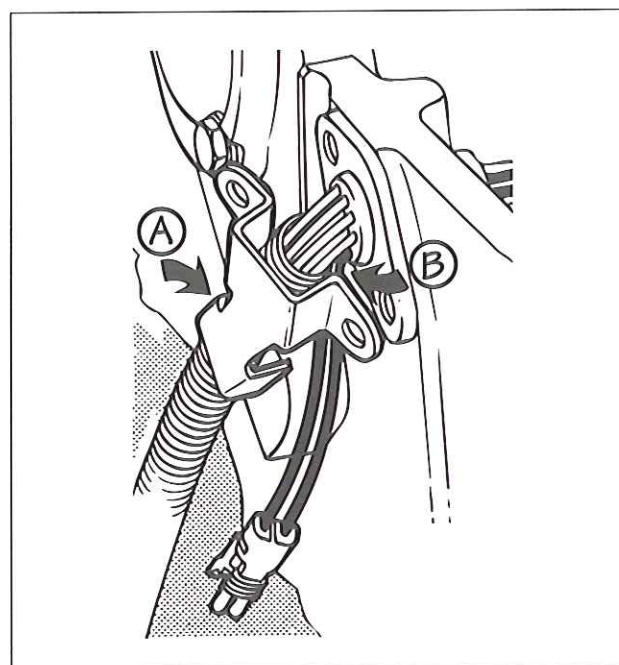

FIG. 5
1. Remove the mounting flange cover (A) for the Electronic Unit Injector (EUI) harness (see Fig. 5).
2. Insert the blue wire and the yellow wire from the wire harness, Jacobs P/N 017393, through two of the access holes in the grommet (B) located at the rear of the cylinder head. Insert wires from outside in.